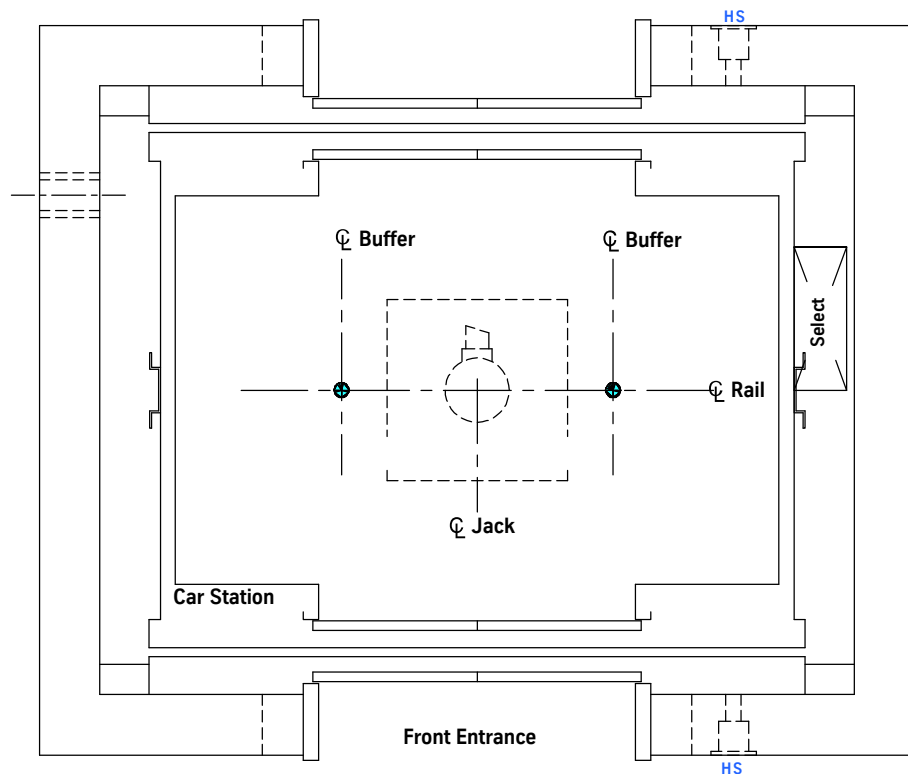

Figure 22 - Example Layout
2. From the top landing, check the travel and plumb of the front walls and floor landings. See Figure 22.